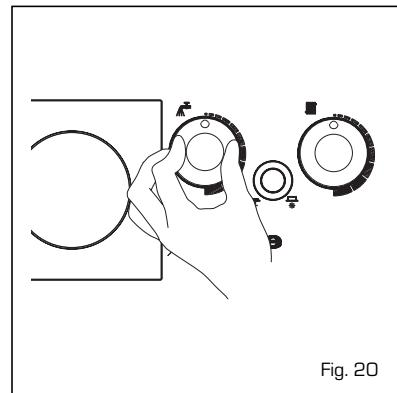

Fig. 20
- The heating temperature can be adjusted by turning the knob of the thermostat (fig. 20).